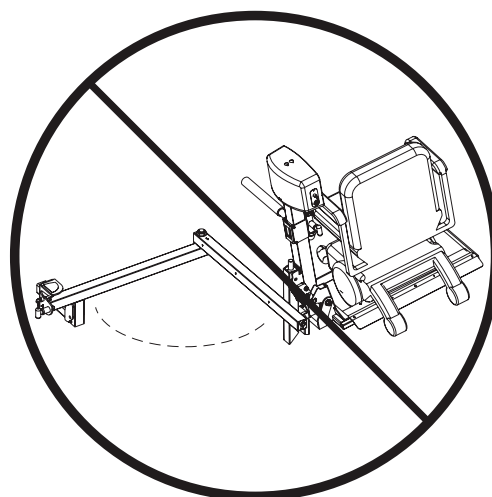

Figure 3-7
*NEVER open the Swing-Away with the mobility device on the lift. Opening the Swing-Away with the mobility device on the lift will damage the Swing-Away and the lift and will potentially damage the vehicle and the mobility device. Any of these actions will VOID the warranty. *See Figure 3-7.**